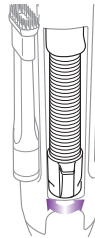

Fig. 8
- 1 Remove the accessory hose from the back of the unit by turning the hose to the left or right to unlock. (Fig. 8)